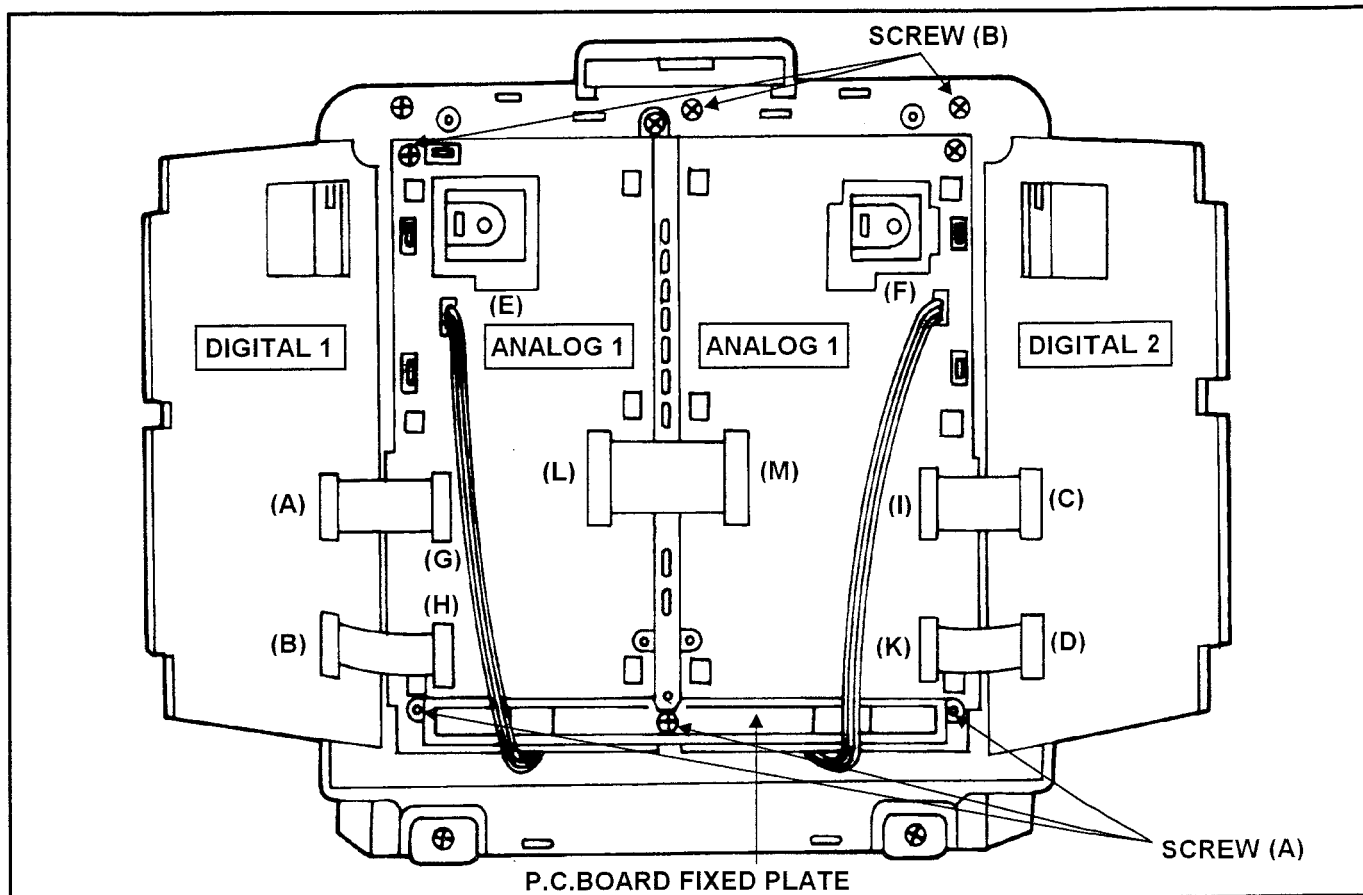

Figure 16
5. Open the Digital 1 and 2 P.C.Board as shown in Figure 16.
6. Disconnect the connector (A): P35702 and (B): P35701 on the Digital 1 P.C.Board as shown in Figure 16, then remove the Digital 1 P.C.Board.
7. Disconnect the connector (C): P33002 and (D): P33001 on the Digital 2 P.C.Board as shown as shown in Figure 16, then remove the Digital 2 P.C.Board.
3. Disconnect the connector (E): P7809 on the Digital 1 P.C.Board and (F): P7810 on the Digital 2 P.C.Board as shown in Figure 16.
4. Unscrew the 3 screws (A) and remove the P.C.Board Fixed Plate as shown in Figure 16.
5. Disconnect the connector (G): P7803 and (H): P7805 on the Analog 1 P.C.Board as shown in Figure 16.
6. Disconnect the connector (I): P7803 and (K): P7805 on the Analog 2 P.C.Board as shown in Figure 16.
7. Remove the Flexible Cable, which is connected between connector (L): P7804 and (M): P7804 as shown in Figure 16.
10. Unscrew the 3 screws (B) as shown in Figure 16.